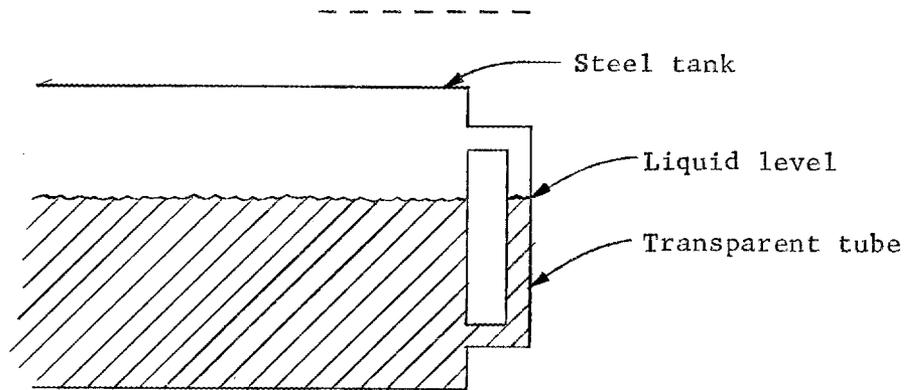

Fig. V-65. Liquid Level Measure by Sight Glass
74. One of the simplest instruments for measuring liquid levels in tanks is the sight glass, used as shown below (Figure V-65).